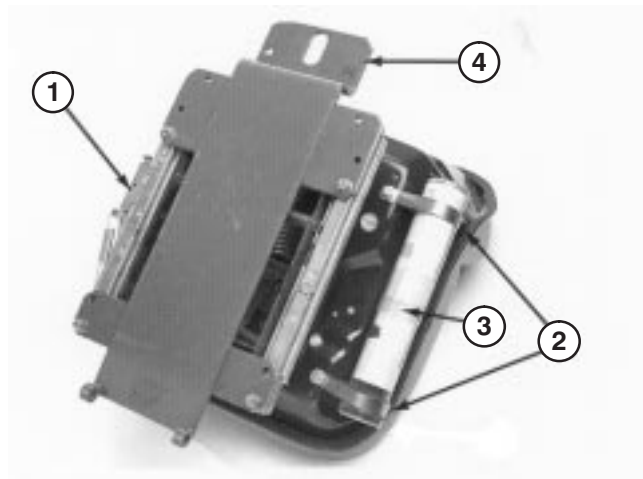

Figure 8
5. Mount seat suspension assembly to (4) capscrews on seat bottom and secure with (4) lockwashers, flatwashers and nuts (Fig. 8).
6. Loosely secure (2) R-clamps to right side of seat bottom with (2) capscrews and flatwashers supplied in kit (Fig. 8). Install manual tube into R-clamps and tighten capscrews (Fig. 8).
7. Mount seat support over four threaded studs at the bottom of seat suspension assembly and secure in place with lockwashers and nuts (Fig. 8).
Note: When mounting seat suspension, use forward set of mounting holes for a shorter operator, as shown in figure 8, or rear set for a taller operator.